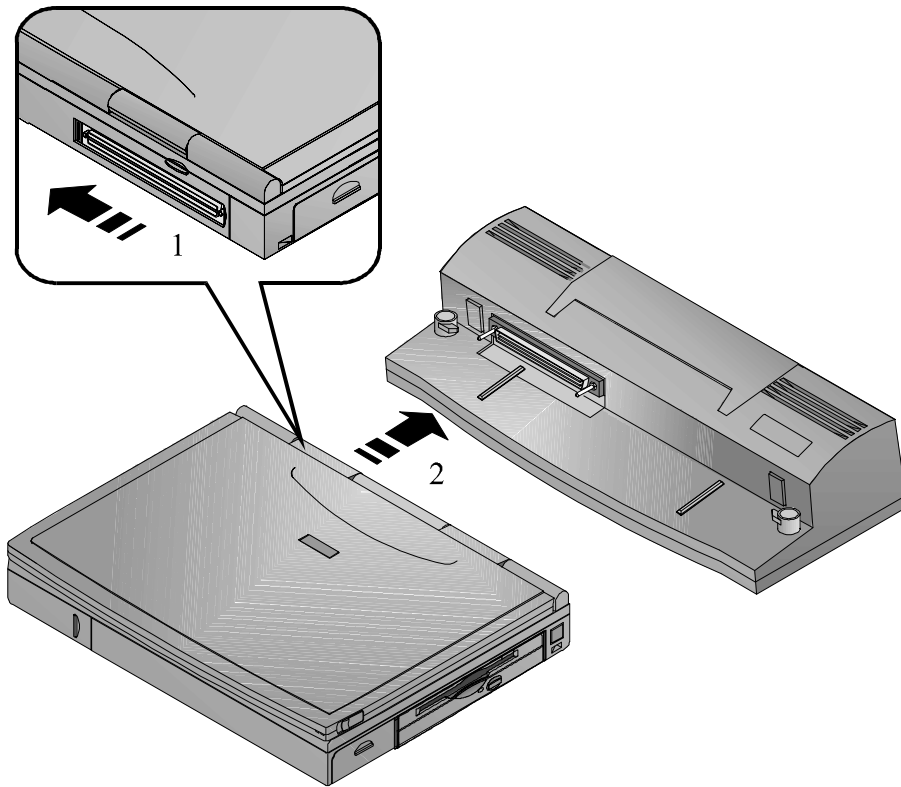
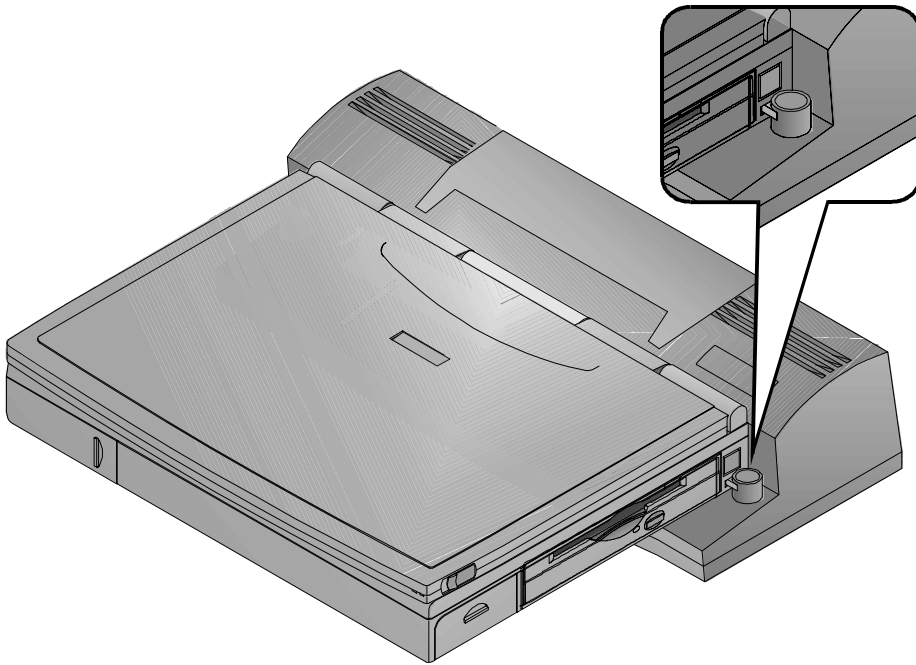

Figure 6-13: Docking the Notebook to the Port Replicator
Figure 6-14: Securing the Notebook to the Port Replicator
You may want to refer to figure 6-13 and figure 6-14 as you read these instructions for a visual guide to docking the notebook to the Minidock Port Replicator
1. Locate the Minidock's 240-pin port found on the front left side of the Minidock. Find the 240-pinned connector on the rear side of the notebook. It is concealed by a plastic door. Slide the door to the left until it clicks into its open position. (Figure 6-13, step 1)
2. Notice that there is one rail on the left of the docking platform and one on the right. These rails correspond with two grooves on the bottom side of the notebook computer. Place the notebook on the Minidocks docking platform, aligning the rails with the grooves (Figure 6-13, step 2).
3. Gently slide the notebook along the rails on the docking platform until the notebook is secured between the two docking tabs (Figure 6-14). Do not force the connection. Forcing a connection can seriously damage either or both the port and the connector. If you are unable to make a smooth connection, realign the notebook and try again.
2. Dock the notebook to the Port Replicator and then turn on the power. Please refer to figure 6-13, 6-14 and the corresponding instructions to ensure that the notebook is properly docked to the Port Replicator.